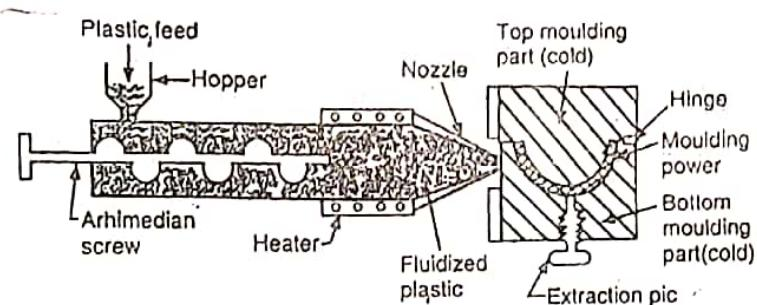

Fig. 18. Injection moulding of plastics.
2. **Injection moulding** is applicable mainly to thermoplastic resins. In this, the moulding plastic powder is fed into a heated cylinder, from where it is injected at a controlled rate into the tightly-locked mould by means of a screw arrangement or by a piston plunger (see Fig. 18). The mould is kept cold to allow the hot plastic to cure and become rigid. When the material have been cured sufficiently, half of the mould is opened to allow the injection of the finished article without any deformation, etc. Heating is done by oil or electricity.